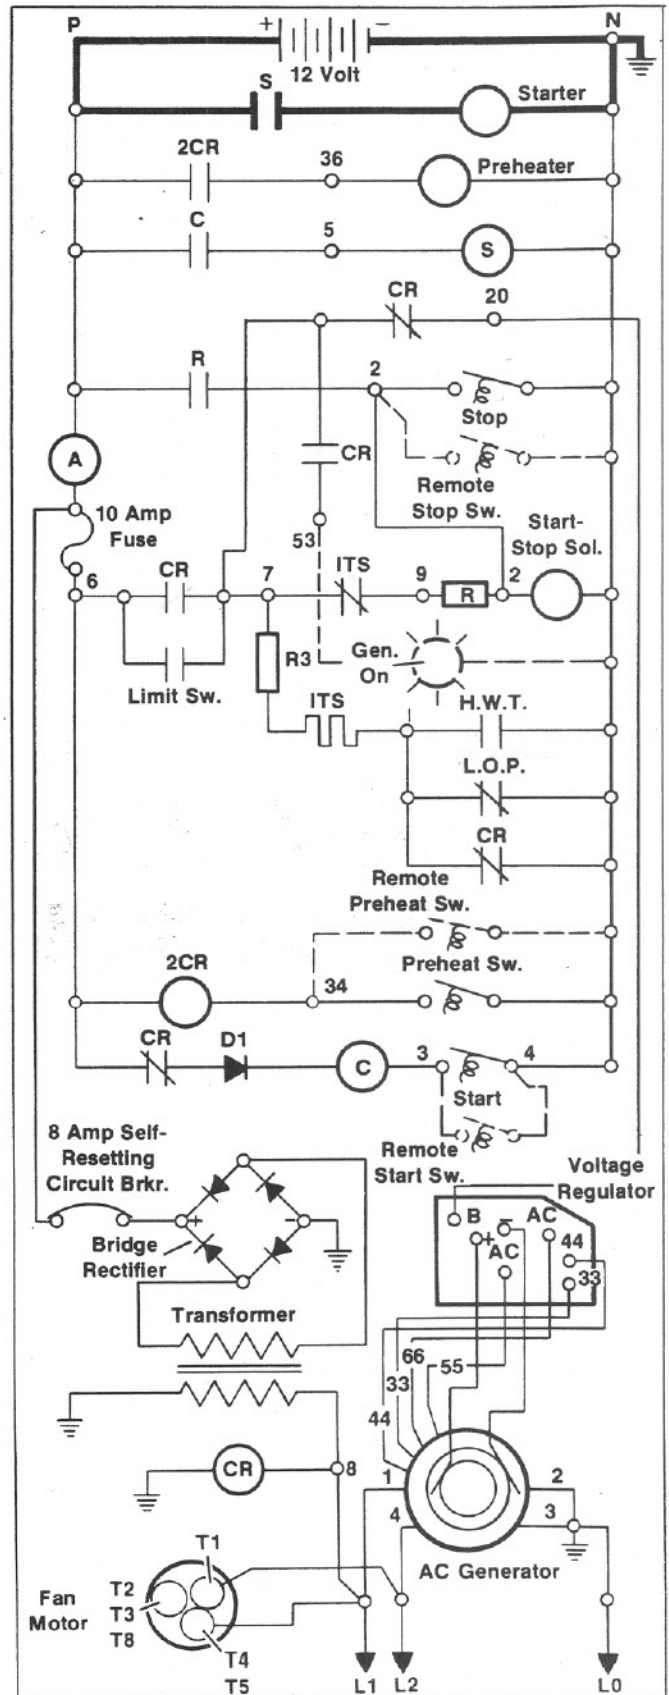

Figure 1. Controller Operation
8. Install regulator in generator and connect as shown in Figure 1. Disconnect generator from load. Connect voltmeter across L0 and L1. Start engine. Adjust regulator Pot. so meter shows proper output voltage. Stop engine. Remove voltmeter and seal Pot. with RTV or suitable substitute.